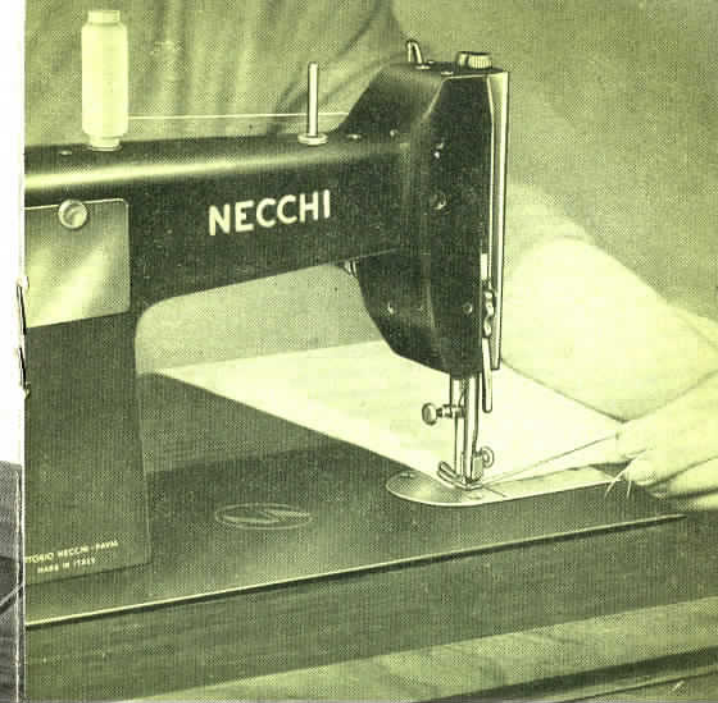

Fig. 16
- 3 Place fabric under presser foot holding tight the two threads (Fig. 16).